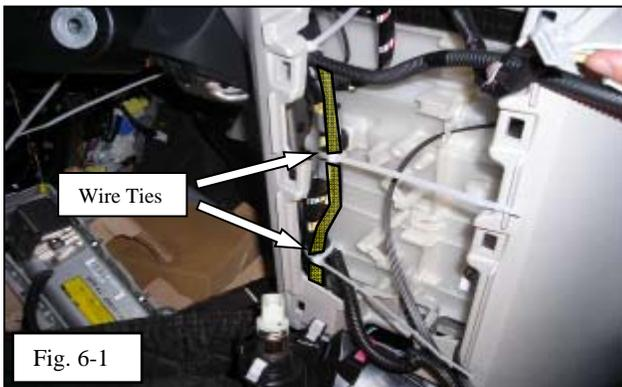

Fig. 6-1
(a) Route the switch harness down the center panel area along the OE harness and secure with two (2) wire ties as shown. (Fig. 6-1)